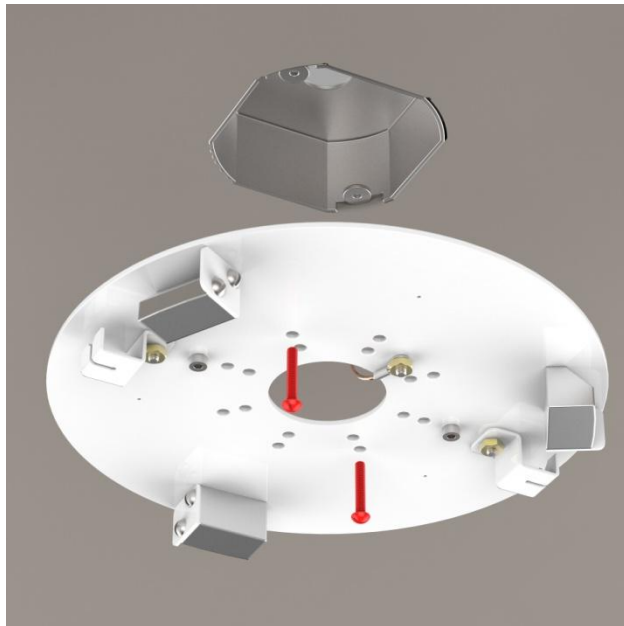

Figure 1
- Secure mounting disk to electrical box using the provided screws, shown red (Figure 1).